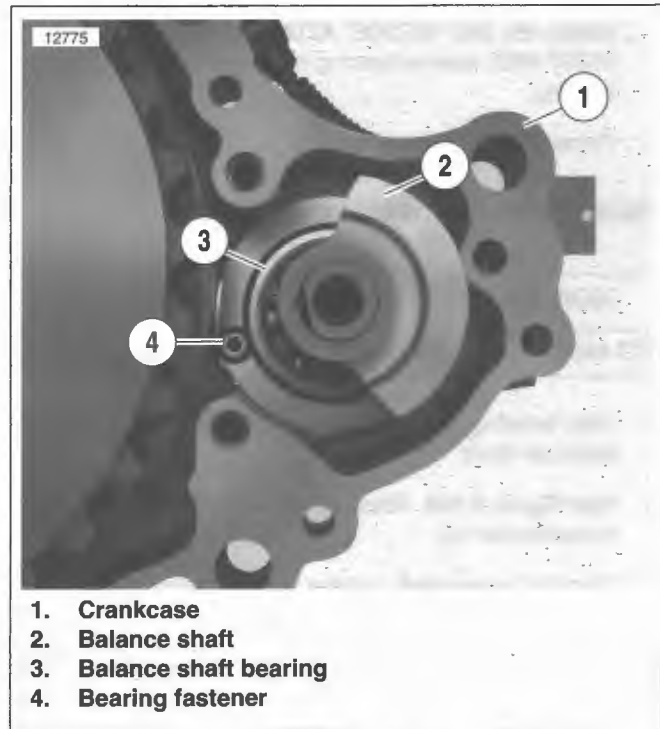

Figure 3-150. Balance Shaft Bearing
1. See Figure 3-150. Remove bearing fastener (4) from crankcase (1).
- See Figure 3-150. Install **new** bearing fastener. Tighten to 40-70 in-lbs (4.5-7.9 Nm)